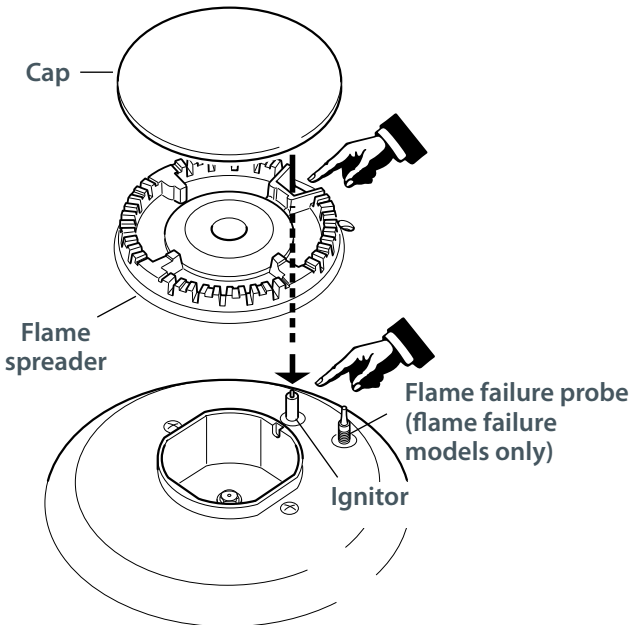

Fig. 19a Correct line-up of auxiliary, rapid and semi-rapid burner parts
- In the models with the flame failure safety device, check that the probe (Figs. 19a and 20) next to each burner is always clean to ensure correct operation of the safety valves.